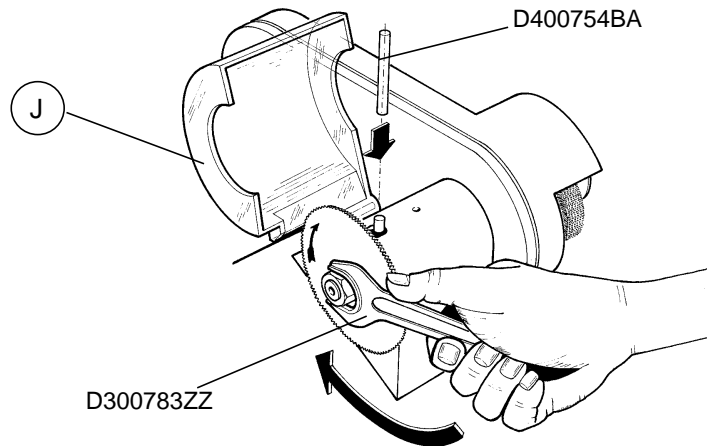

Fig. 9
- 1) Raise the cutter shield (J) and insert the locking bar (#D400754BA) into the slot in the base and the hole in the cutter shaft next to the cutter as shown in fig. 9.